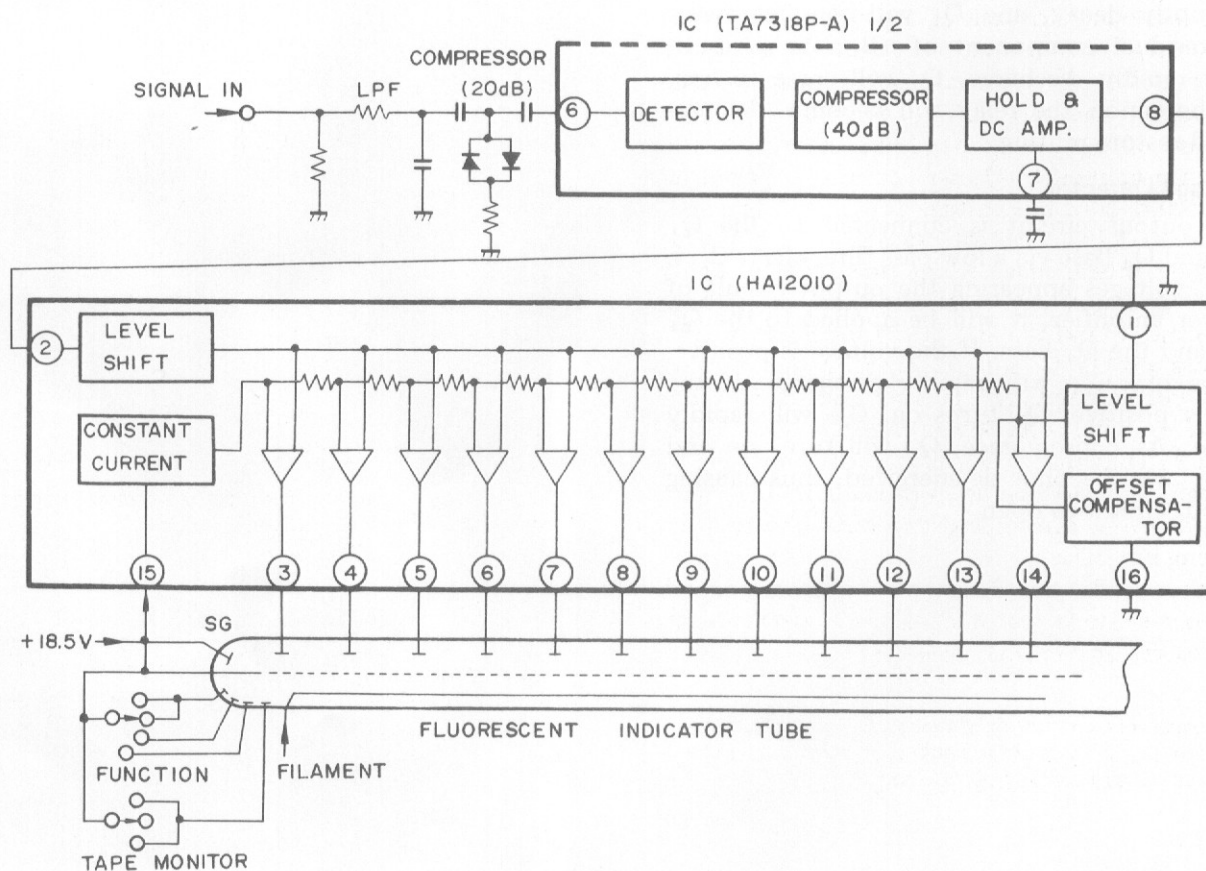

Fig. 5-10 Indicator Circuit
An outline of the FL tube drive circuit is shown in Fig. 5-10. The output circuit signal is first passed through a low-pass filter and a compressor circuit before being applied to pin no.6 (4) of the IC (TA7318P-A). The compressor circuit makes use of the non-linearity of the rising portion of the diode's  $V_d - I_d$  characteristics to contract the signal dynamic range by 20dB. The IC contains a detector circuit, compressor (40dB), and peak